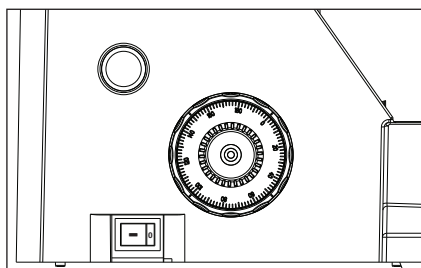

Fig. 17
1. Flip the main switch to "I" (ON) as shown in Figure 17.